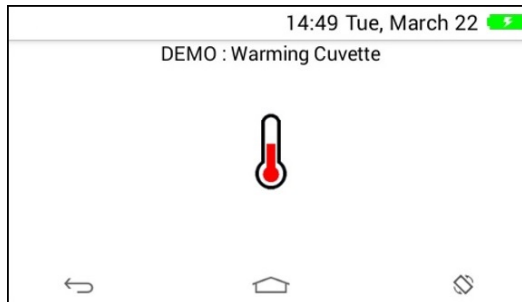

Figure 17 – Demo: Warming cuvette
- b) The demo displays a thermometer icon that indicates that the cartridge is being warmed. See Figure 17.